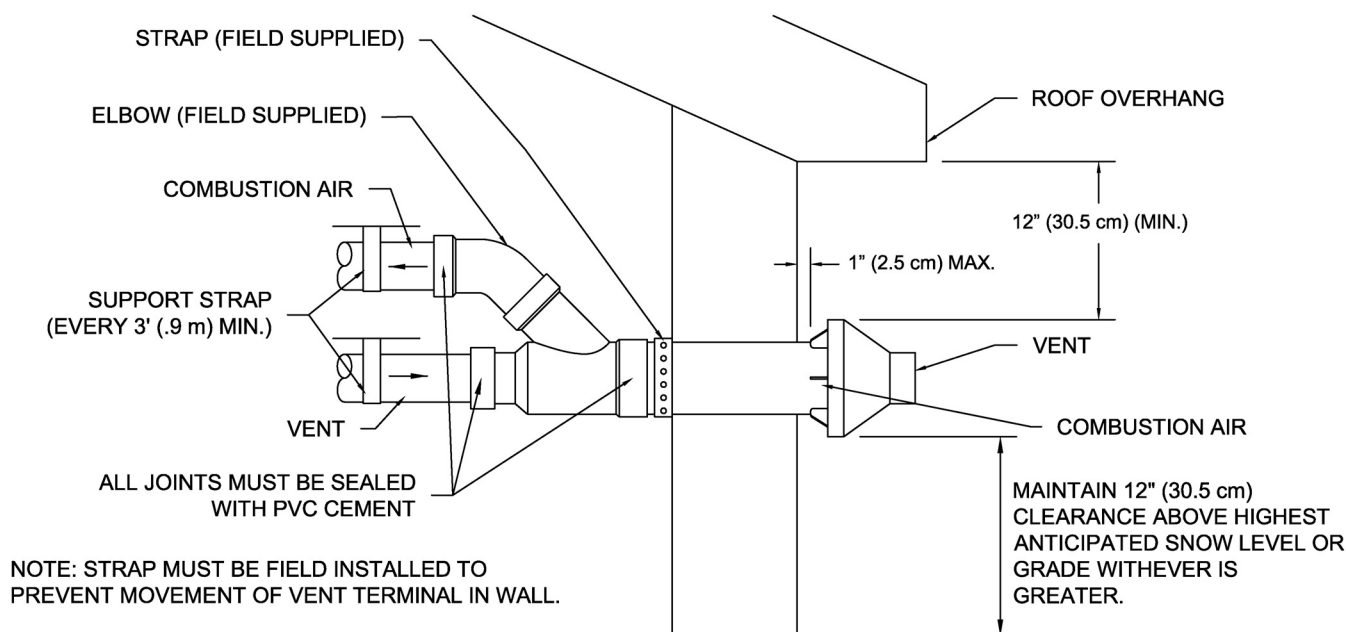

Figure 23A. Concentric Vent Side Wall Attachment
7. Secure assembly to structure as shown in Figure 23A. Ensure clearances as shown in Figure 23A.
8. Cement heater combustion-air and vent pipes to concentric Y fitting termination assembly. See Figure 23A & 23B for proper pipe attachment.